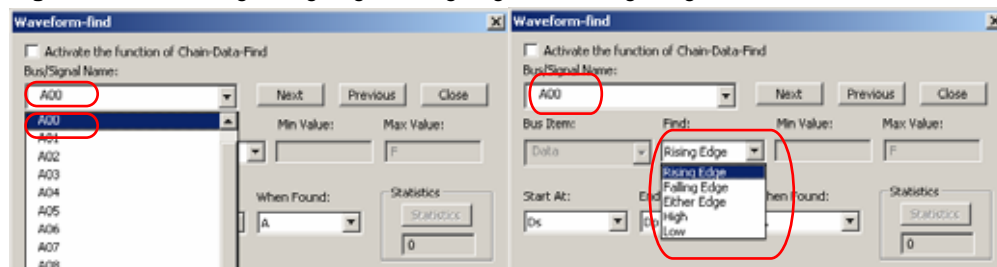

Fig 3-121: Waveform-find Dialog Box of the Logic Signal
Step 3. Choose the character for Find. The list of characters depends on whether it is a Bus, Signal, or the protocol analyzer such as I2C, UART, SPI, etc., which is being searched (See Figs 3-121, 3-122, 3-123, 3-124, 3-125, 3-126, 3-127, 3-128 and 3-129).